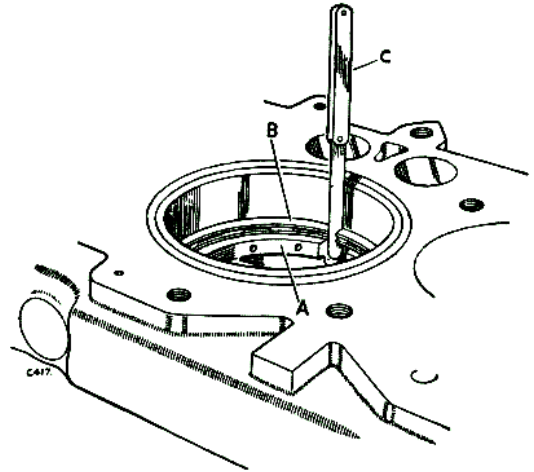

Fig. A-412—Checking a piston ring gap
3. Check the piston ring gaps in the liner bores, using an old piston as illustrated in Fig. A-412, to keep the rings square in the bore.